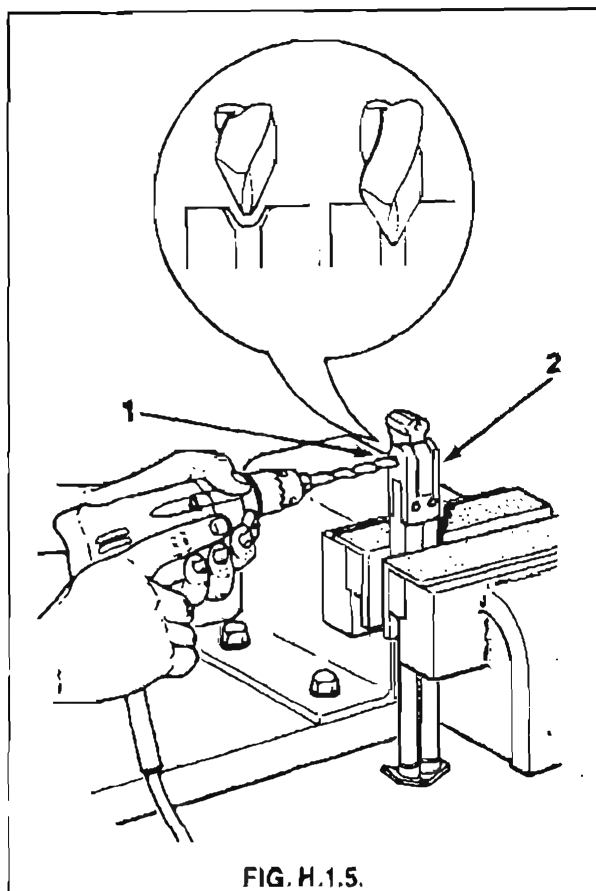

FIG. H.1.5.
3. Support the assembly and drill off the head of the bipod axis pin using a 5.93 mm diameter twist drill. Remove the remains of the axis pin using a suitable punch and a hammer. Fit serviceable connector and new axis pin and form ends on axis pin. See Fig. H.1.5.